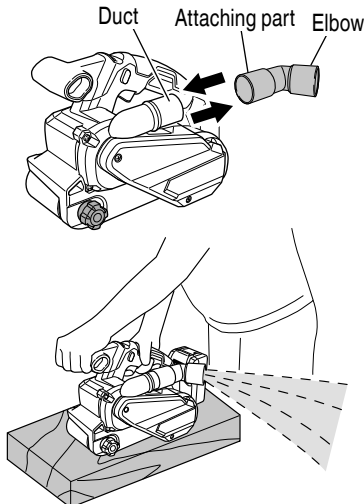

Fig. 11
6. Attaching and Removing the Elbow (Fig. 11)